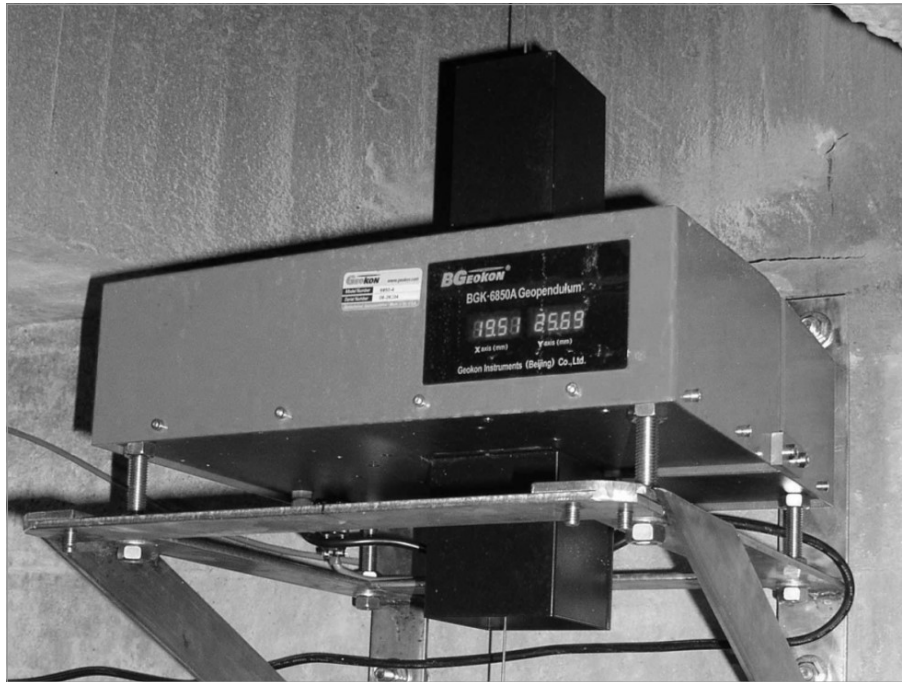

FIGURE 26: Light Shields Installed, Image for Reference Use Only
25. Attach the upper and lower light shields to the cabinet as shown in Figure 26 with the supplied screws.